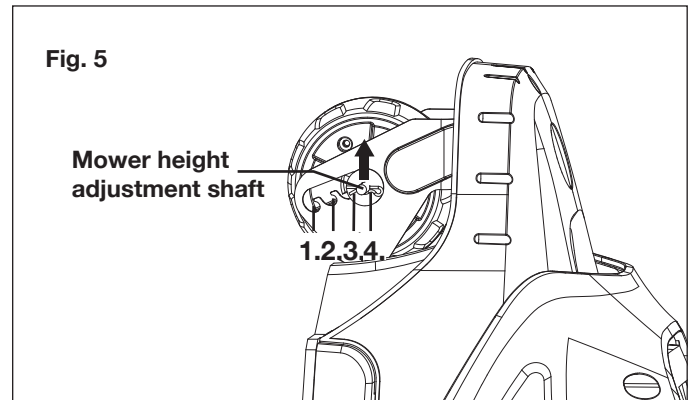

Fig. 5
2. To adjust the cutting height in front, place the lawn mower on its side. Pull the mower height adjustment shaft to the outside of the original slot (Fig. 5).